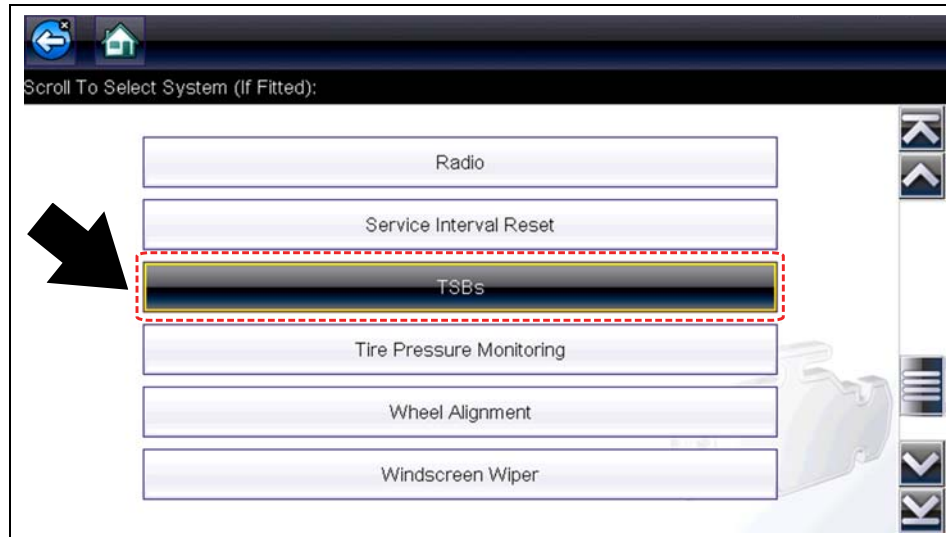

Figure 7-4 Scanner System Menu - TSBs Option
1. From within a current Scanner session select **TSBs** from the System menu (Figure 7-4).